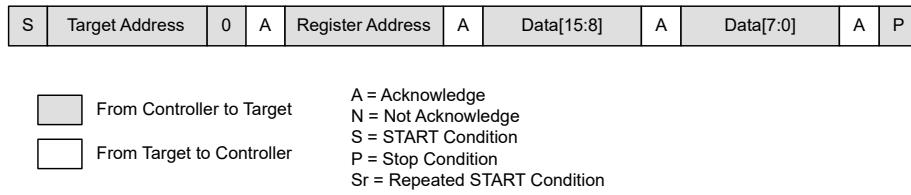

Figure 7-21. Write Single Register
7.5.1.5.1 Writing A Single Register (Figure 7-21)
Figure 7-21 shows a diagram of this protocol. Steps for this protocol are: